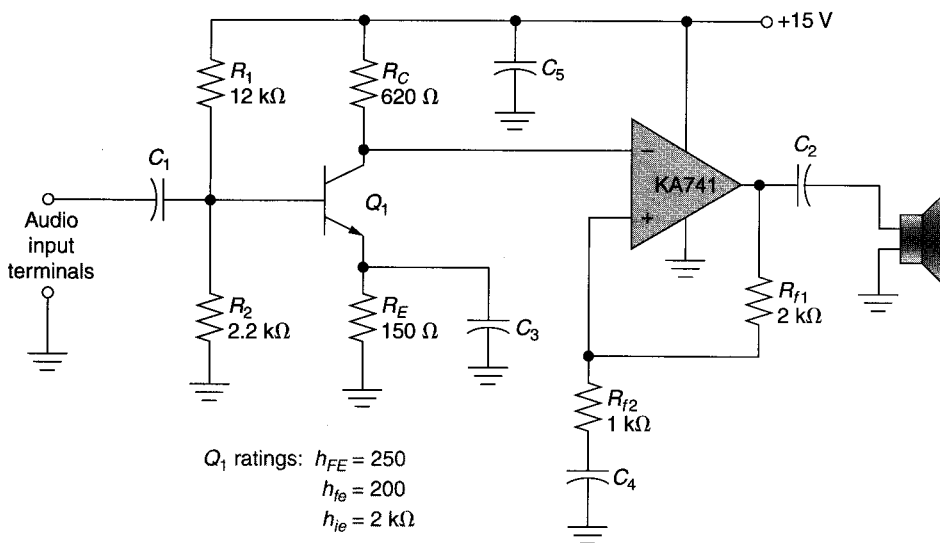

FIGURE 16.46
24. Calculate the voltage gain of the audio amplifier in Figure 16.46.